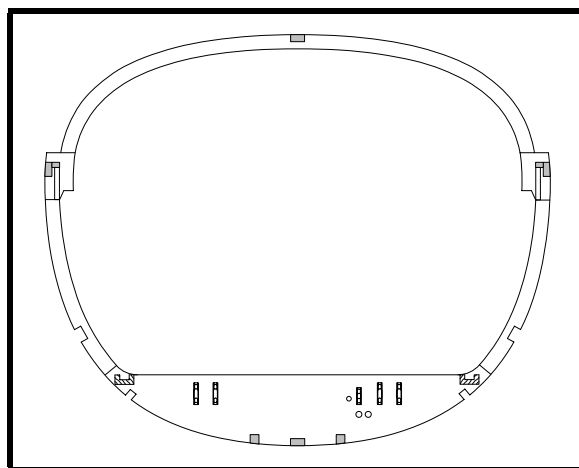

Figure 32
- ❑ Glue a 10mm thick strip of spruce vertically on the aft face of frame 2 and on the inside of the upper side longeron as shown in Figure 32. This strip is to pick up inside cockpit skin. Do this on the left and right sides of the airplane.